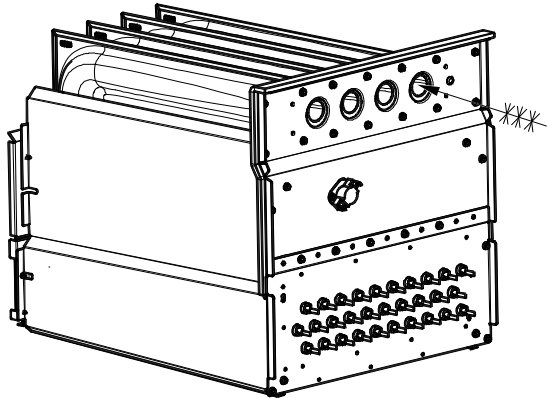

Fig. 72 – Cleaning Heat Exchanger Cell
7. Clean the heat exchanger openings with a vacuum and soft brush (Fig. 72).